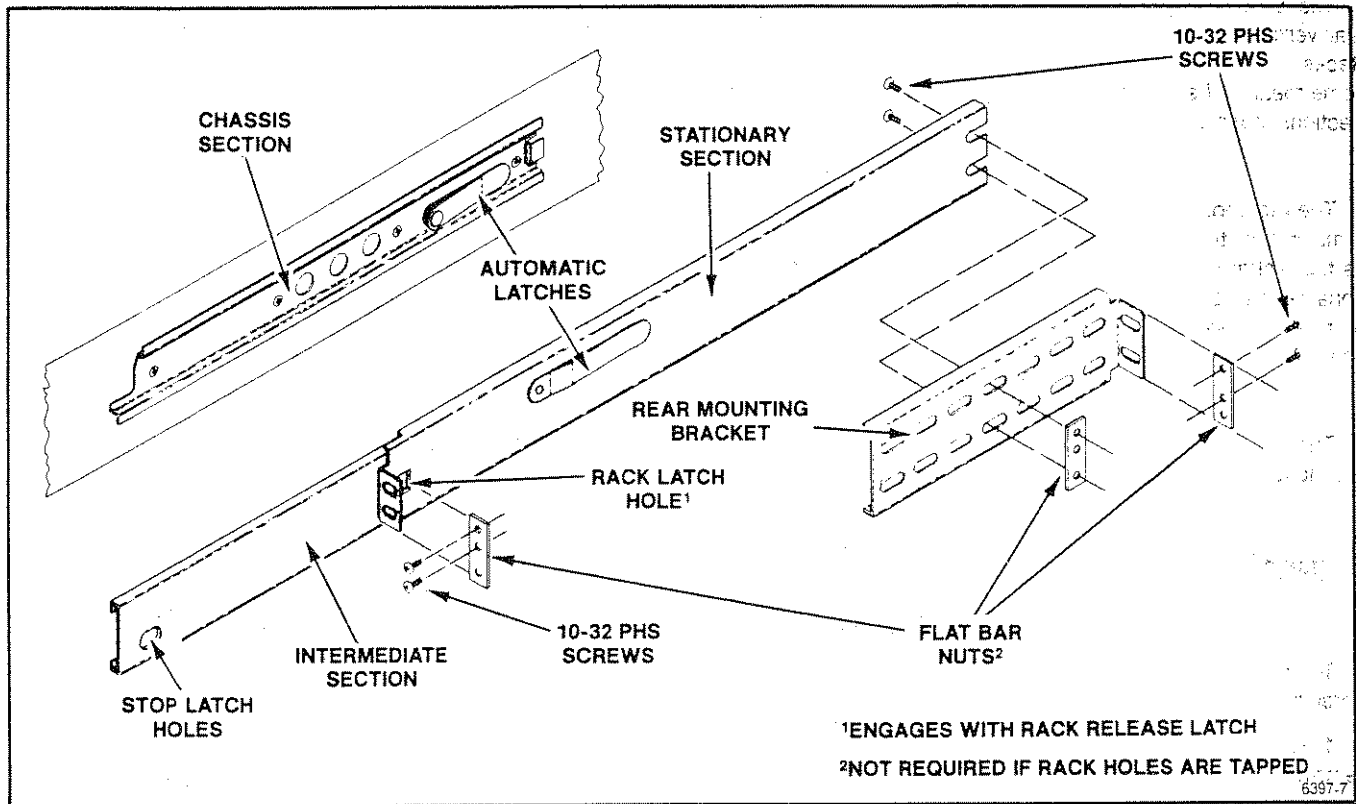

Fig. D-12. Rackmount slide detail #1.
The rack hardware consists of the Intermediate and Stationary Sections (Fig. D-12). There are two sets of these sections, one for each side of the rack. Each set is separately wrapped as a matched set in the kit. The Stationary Sections attach to the vertical rack rails, while the Intermediate Sections fit between the Stationary Sections and the Chassis Sections on the instrument to allow the instrument to be extended out of the rack.
2. Using the 10-32 PHS truss head screws and bar nuts (for untapped rails) provided in the rackmount hardware, mount the Stationary Sections for each side to the front and rear rack rails (Figs. D-12 and D-13). When mounting the sections to the rear rack rails, use either the deep or shallow rack methods shown in Fig. D-13B or D-13C. If the rack rail holes are tapped, the bar nuts may or may not be used.